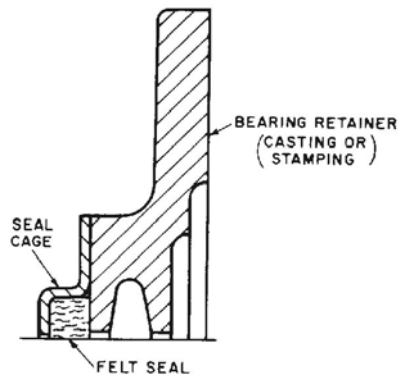
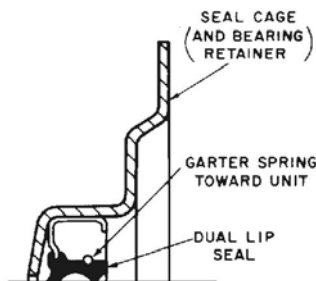
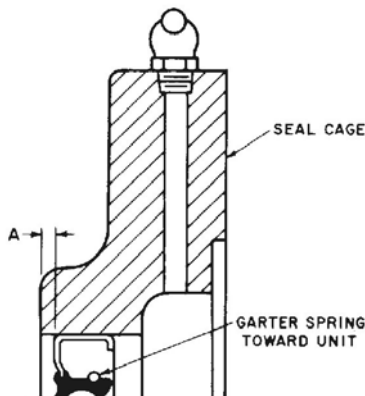

Figure 1
Figure 2
Figure 3
FELT SEALS — The felt seal assembly illustrated in Figure 1, has been discontinued and is automatically replaced on parts orders with the retainer and lip type seal illustrated in Figure 2 or 3.
5. Note the position of the seal lips and garter spring in Figure 2. Assemble with the garter spring toward the inside of drive.
6. Carefully work seal into position. DO NOT strike seal directly. For seal cages similar to that in Figure 2, place a square ended cylindrical tool against the seal and drive or press the seal until fully seated. For seals for Size 8 drives and the low speed shaft of CB, CBT, CBA, EB, EBT and EBA drives refer to Figure 3 and Table 1.
TABLE 1 — Dimension "A" for Figure 3 – Inches
8. Lightly bolt new gasket and seal cage assembly to drive. Center the seal cage assemblies shown in Figures 1 and 2 on the shaft by checking the clearance between the cage and shaft with feelers or shim stock. Tighten cap screws. The seal cage in Figure 3 is self-centering.